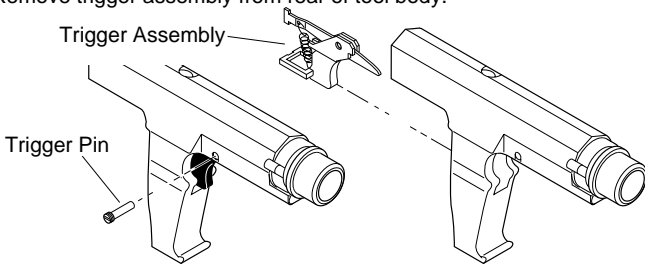

Figure 8 - Removing Trigger Pin and Trigger Assembly
1. Remove trigger pin from tool body (see Figure 8). *Note:* End of trigger pin is threaded. Unscrew threaded portion of pin, then pull pin from tool body.
1. Insert trigger assembly into tool body at rear of body (see Figure 8, page 20).